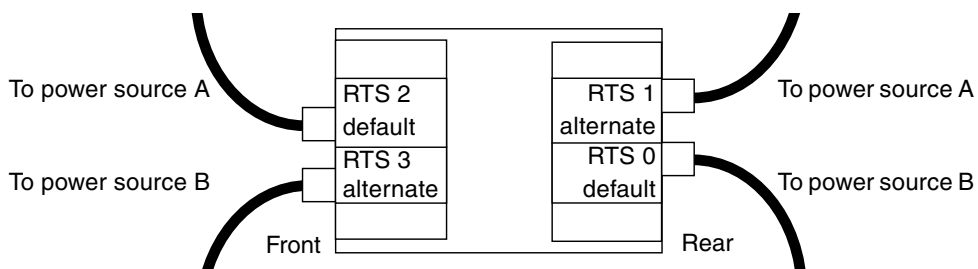

FIGURE 2-6 Two Independent AC Power Sources
- In configurations with two independent AC power sources you have four cables to connect, two on the front, and two on the rear of the system (FIGURE 2-6).